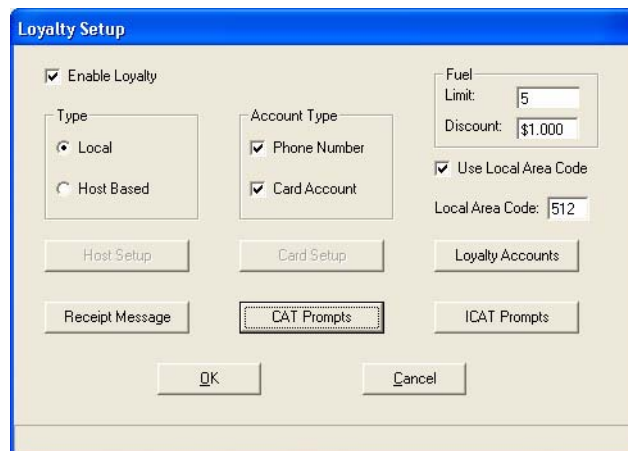

Figure 7-68 Loyalty Setup Window
NOTE:The Loyalty Accounts function will only be available when the Loyalty Type is set to **Local**. See Figure 7-68.
NOTE:The Host Setup function will only be available when the Loyalty Type is set to **Host Based**. See Figure 7-68.
NOTE:The Card Setup function will only be available when the Loyalty Type is set to **Host Based**. See Figure 7-68.
10. Click **OK** at the Loyalty Setup Window to save and exit or **Cancel** to exit without saving. See Figure 7-68.